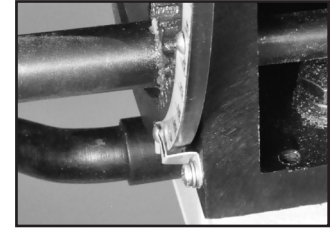

FIGURE 13
4. The angle indicator on the trunnion, under the table at the rear of the machine, can be adjusted by loosening the Phillips head screw and moving the pointer into position to accurately indicate the 90° setting. Fig. 13.